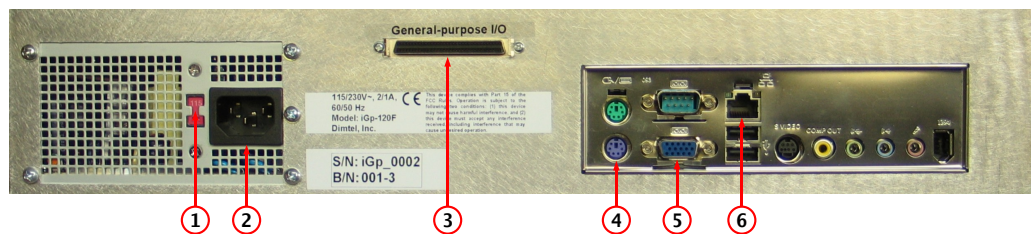

Figure 3: Rear panel features
**WARNING: Before connecting power to the unit make sure the voltage selection switch (Fig. 3, item 1) is in the correct position (115 or 230 V).**
1. Configure voltage selection switch (Fig. 3, item 1). Mains supply requirements for the iGp-396F are listed in Table 8;
7. Connect a PS/2 keyboard (Fig. 3, item 4);
8. Connect a video monitor (Fig. 3, item 5);
Setup program is included in the IOC for configuring the important features of the iGp-396F. The program can be executed locally or remotely. For local execution one must first connect a keyboard (Fig. 3, item 4) and a video monitor (Fig. 3, item 5) to the system. For remote setup, use `ssh` after system bootup to establish connection. In both setup methods the user must login as `root` (initial password is supplied with the system). If the newly received iGp-396F must be configured remotely (when, for example, a keyboard or a monitor is not available), such configuration can be performed using a dedicated network. Set up a network consisting of the iGp-396F, a network hub or a switch, and a remote computer. The iGp-396F is delivered with the following network configuration:
- Make sure no cable is connected to the general-purpose digital I/O port (Fig. 3, item 3);